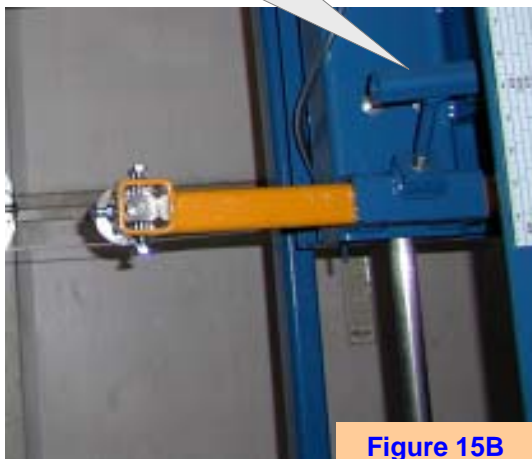

Figure 15B
Step 2: Loosen the t-handle securing the moveable guide and slide it in or out until it is slightly (*no more than 2 inches*) wider than the maximum width of the log. Tighten the t-handle after proper adjustment has been made (**Figure 15B & 15C**).